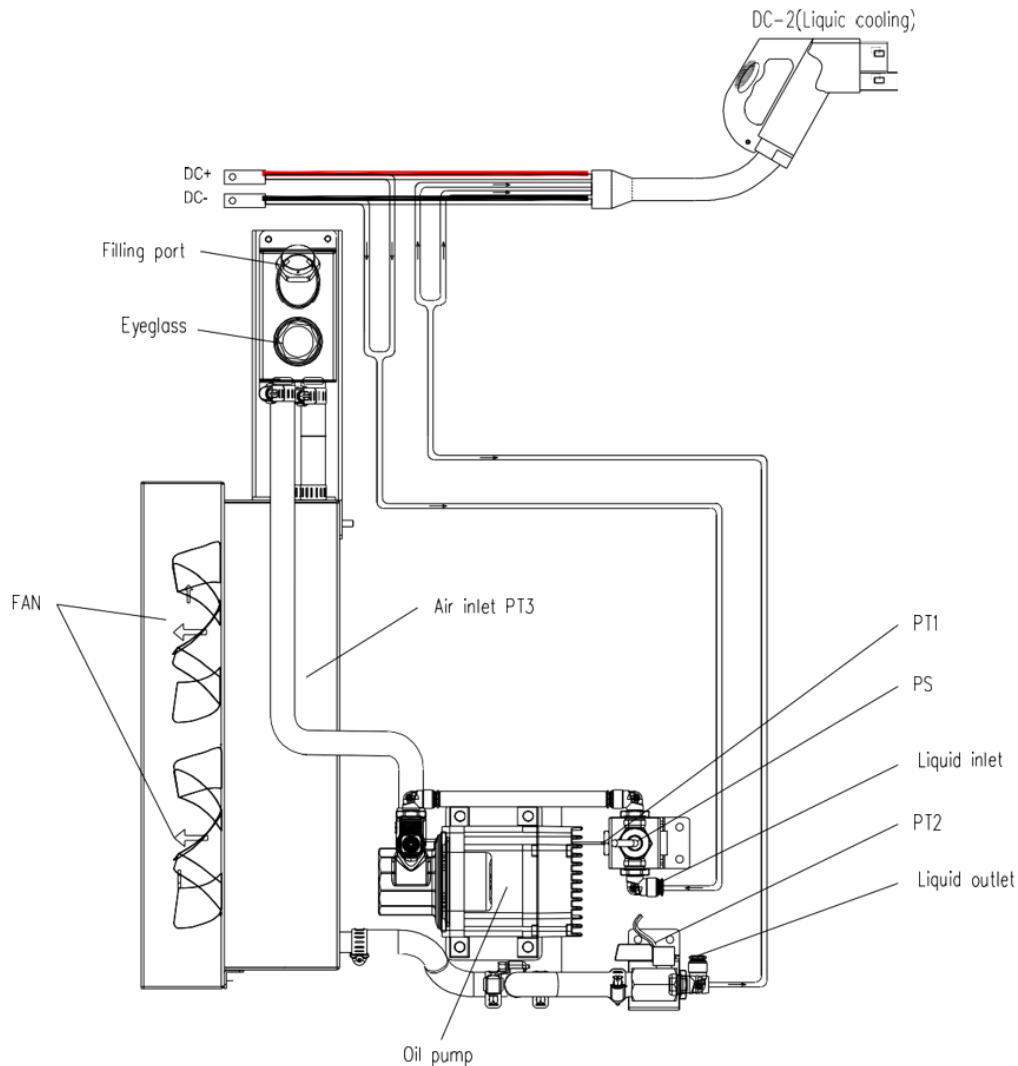

Figure 6.1 Schematic diagram of cold source of the Slim Line Dispenser
- Liquid cooling system by the pump, reservoir, hoses, radiator, fan, pressure sensors, temperature sensors, liquid level alarm switch, drive controller, etc., As shown in Figure 6.1 below